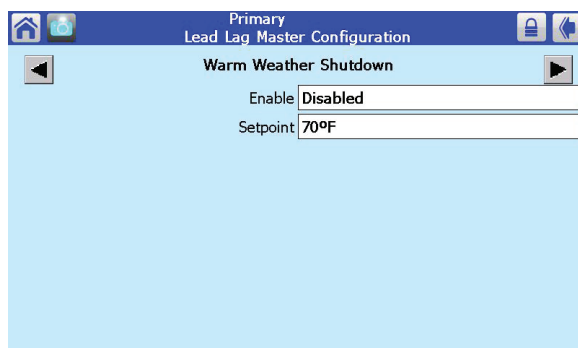

Fig. 88 – Warm Weather Shutdown
10. From the Outdoor Reset screen, press the left-arrow or right-arrow until you see the Warm Weather Shutdown screen (Fig. 88).